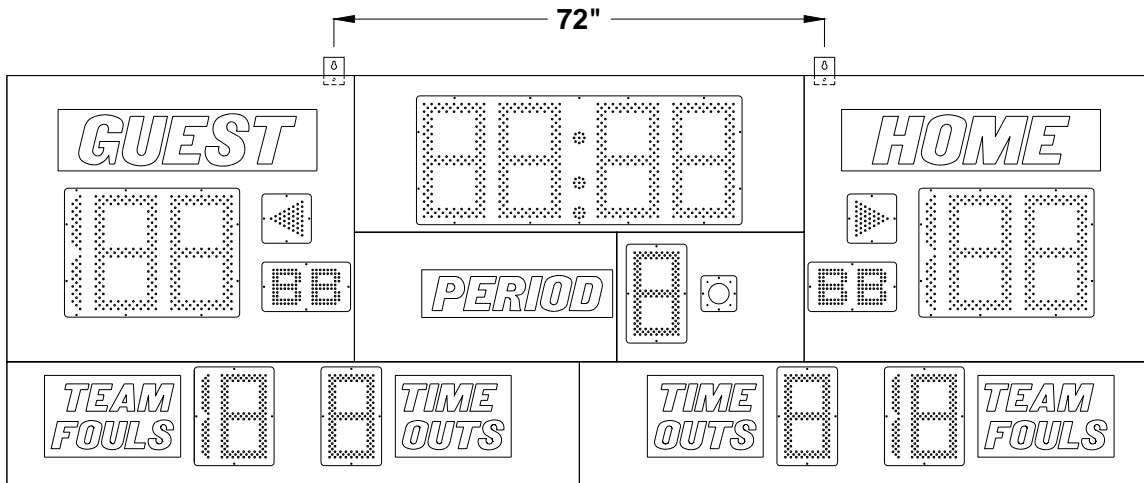

Figure 1 Model 2570 Mounting Points
3. Insert lag bolts or other suitable fasteners through the hanger brackets and fasten the scoreboard to the wall. Figure 1 shows the mounting point locations for model 2570.